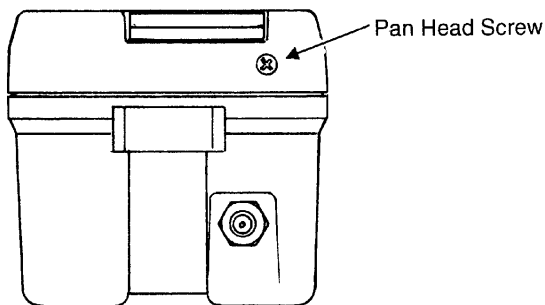

Figure 3. Side view of detector.
To review or change alarm limits, remove the pan head #4-40 black screw (see Figure 3) from the right side of the instrument (as you face it) using a Phillips screwdriver and access a push-button switch with a short rod 3/32" (or less) in diameter. Set the front panel selector switch to AUTO ZERO and after "Air" is displayed, press the push-button switch. The pump will stop running and the instrument will enter a display/set-up mode for alarms and other options.
To access the set-up mode, remove the pan head #4-40 black screw (see Figure 3) from the right side of the instrument (as you face it) using a Phillips screwdriver and access a push-button switch with a short rod 3/32" (or less) in diameter. Place the instrument on a flat surface with some stop to keep the instrument in place. Set the front panel switch to the position nearest AUTO ZERO and press both the push-button and RESET simultaneously. With both switches depressed, turn the front panel switch to AUTO ZERO and release buttons. The instrument will enter the set-up mode for manual calibration and adjust; the display will show "Pu" (pump).
The tools required for sensor replacement and new sensor calibration are a Phillips #1 screwdriver and a small rod (less than 3/32" in dia.) to actuate the push-button under the 4-40 black screw on the right side of the detector (see Figure 3).
1. Remove the black #4-40 screw from the right side of the detector (see Figure 3).